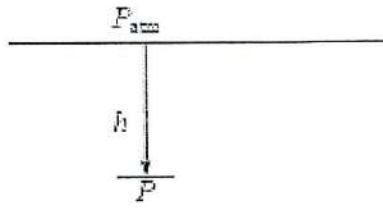

Figure 2 / Rajah 2
- c) Given the absolute pressure in water at a depth of 8 m is read to be 175 kPa as in **Figure 2**. Determine: